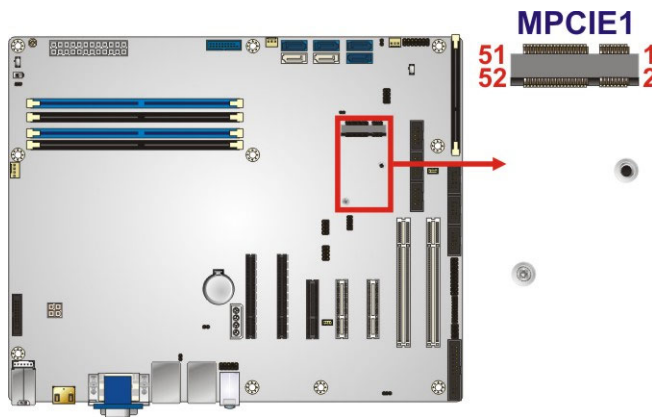

Figure 3-23: PCIe Mini Slot Location
- CN Location:** See **Figure 3-23**